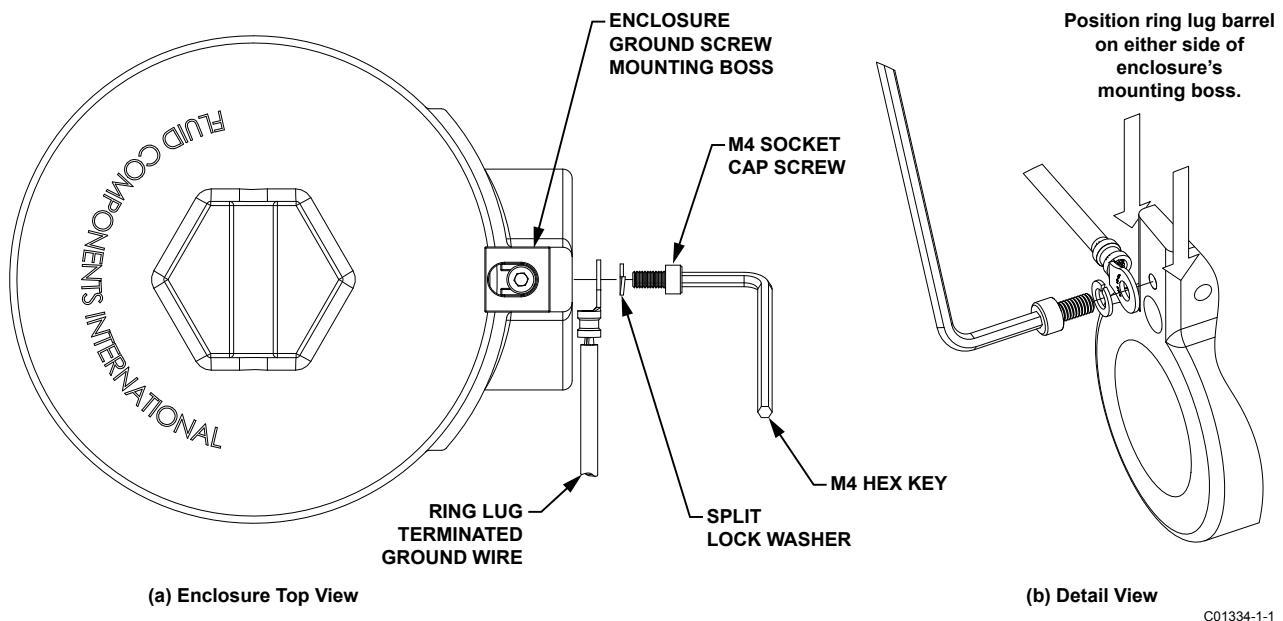

Figure 2-7 Installing Ring Lug Terminated Ground Wire
6. Install ground wire ring lug with end of lug barrel touching the side of the enclosure's mounting boss as shown in Figure 2-7. Place the ring lug on either side of the mounting boss as needed for the installation. Install with the hardware in this order: socket cap screw, split lock washer, ring lug. Torque cap screw to 23 in-lb (2.6 N-m).